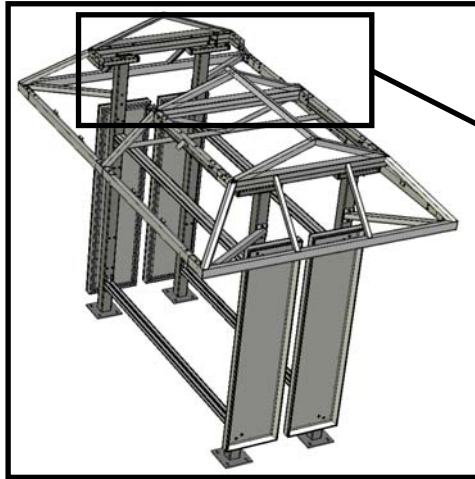

Figure 5
- e) Insert (2) 48232 strain reliefs as shown in Figures 5 through 8.